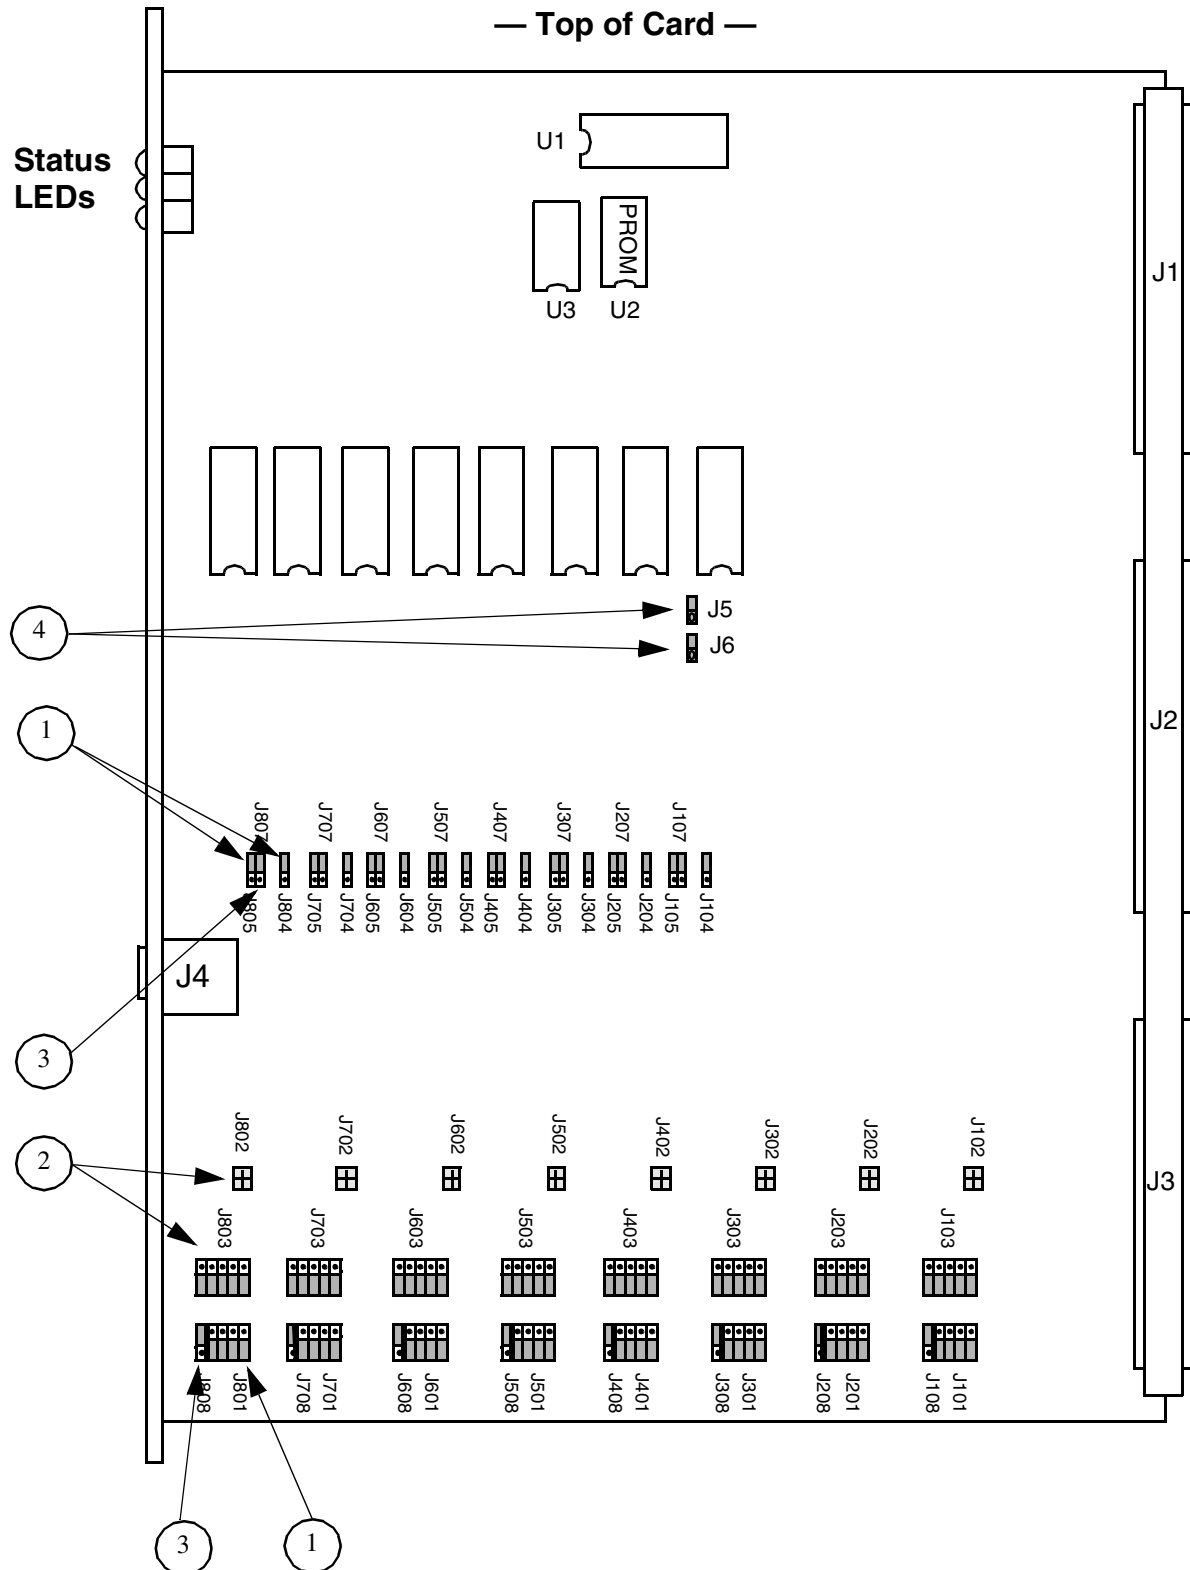
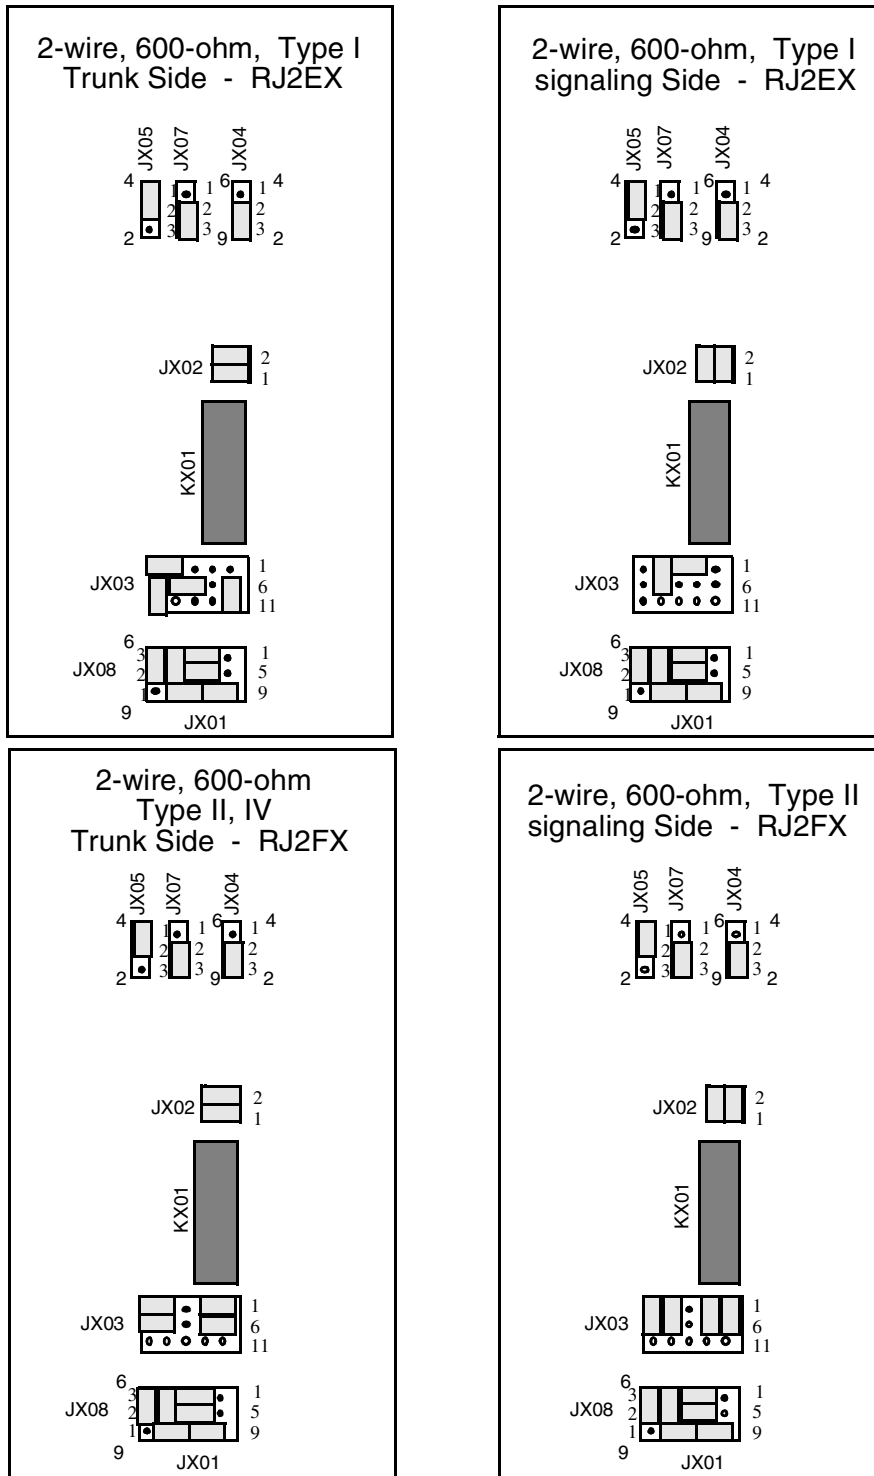
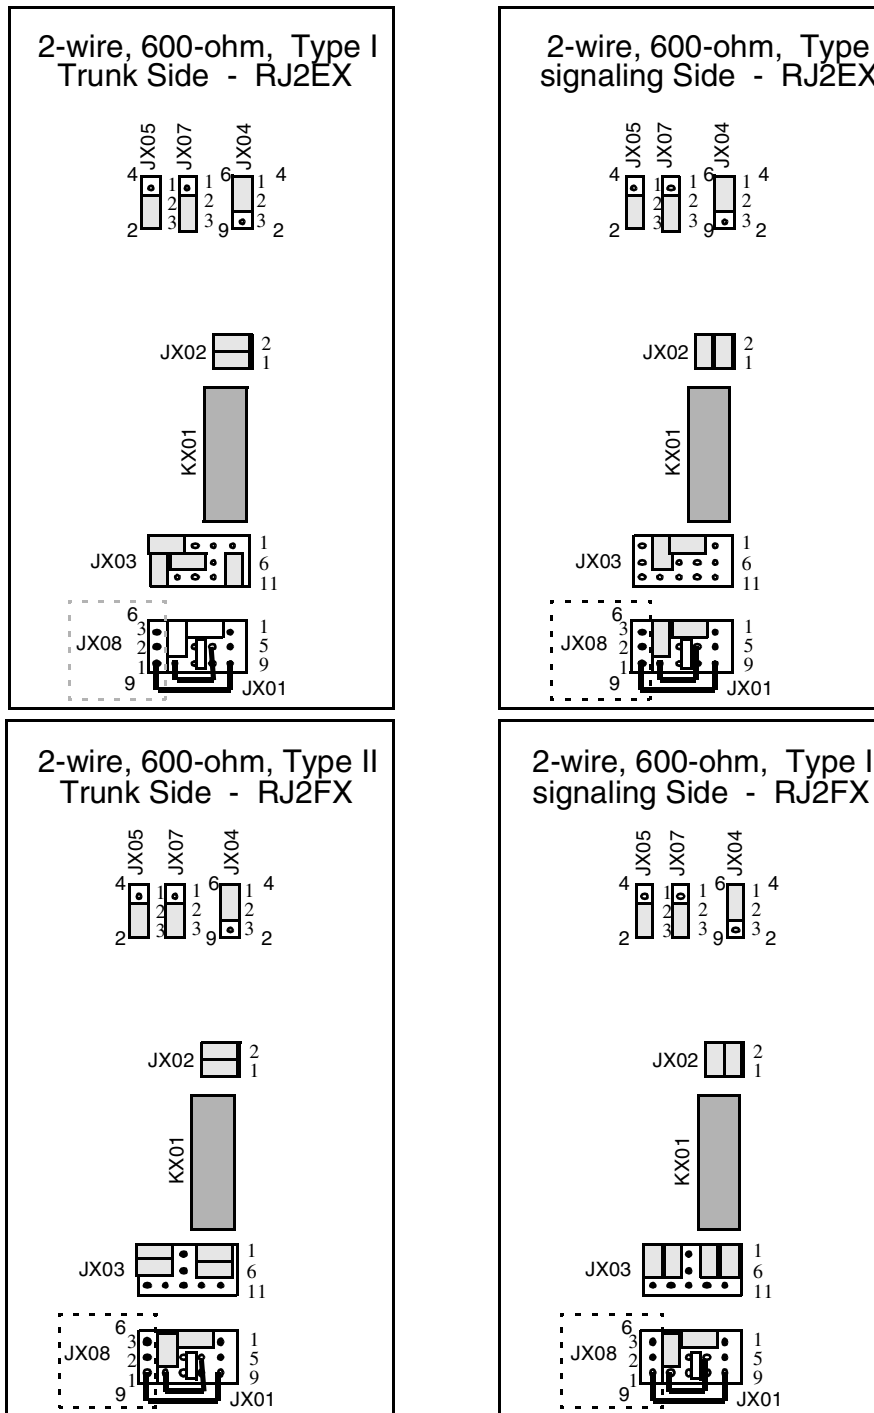
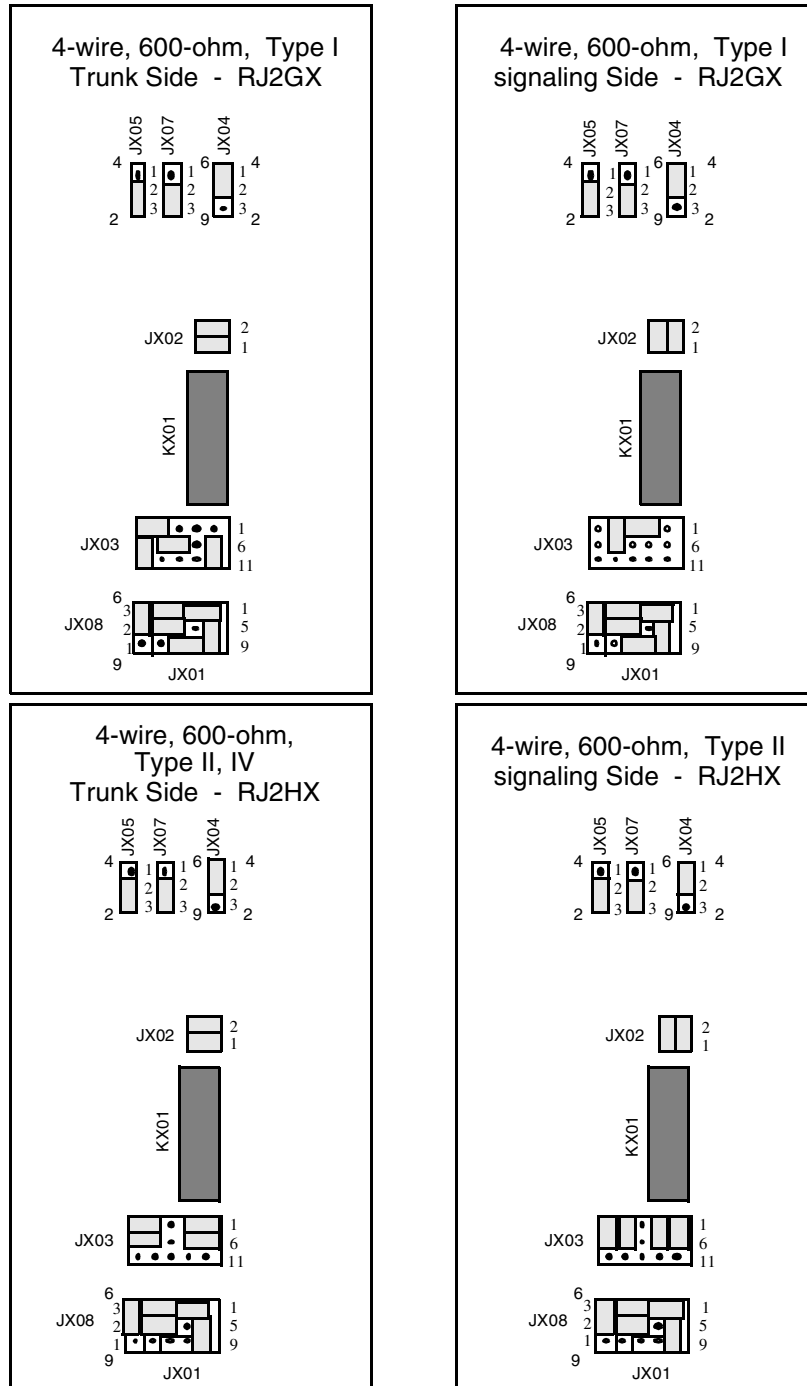

Figure 6: E+M Jumper & PROM Locations
Figure 7: E+M 2-Wire Jumper Settings
Figure 8: E+M 2-Wire Jumper Settings
Figure 9: E+M 4-Wire Jumper Settings, Rev. C & D
Jumper plugs on the E+M are factory set for use in systems. Figure 6 indicates the location of jumper plug areas on E+M card. Figure 7 through Figure 9 show the jumper plug settings specific to the type of E+M signaling application. Use this information to verify or reset jumpers on an interface card prior to installing it in a Port Subrack.
A block of twelve jumper pins constitutes JX01 on the E+M card (X = circuits 1 through 8). JX01 sets each circuit for 2-Wire or 4-wire operation along with JX04 and JX05. Block diagrams of the jumper pin arrangements for JX01, JX04, JX05, and JX07 are provided in Figure 7 (2-wire), Figure 8 (2-wire), and Figure 9 (4-wire).
*NOTE: E+M Cards using PCB artwork Rev. C0Q and C0R require different jumper settings for 2-Wire configurations. These unique jumper settings are shown in Figure 8*
Jumper locations JX02 and JX03 are set for the type of signaling employed for the circuit (X = circuits 1 through 8). Jumper arrangements vary according to whether the trunk is set for Switching or signaling side operation. Block diagrams of JX02 and JX03 jumper pin arrangements are provided in Figure 7 (2-wire), Figure 8 (2-wire), and Figure 9 (4-wire).
Jumper locations JX07 and JX08 are set for either 900-ohm or 600-ohm trunk circuits (X = circuits 1 through 8). Only 600-ohm terminations are currently supported for system E+M cards. See Figure 7 (2-wire), Figure 8 (2-wire), and Figure 9 (4-wire).